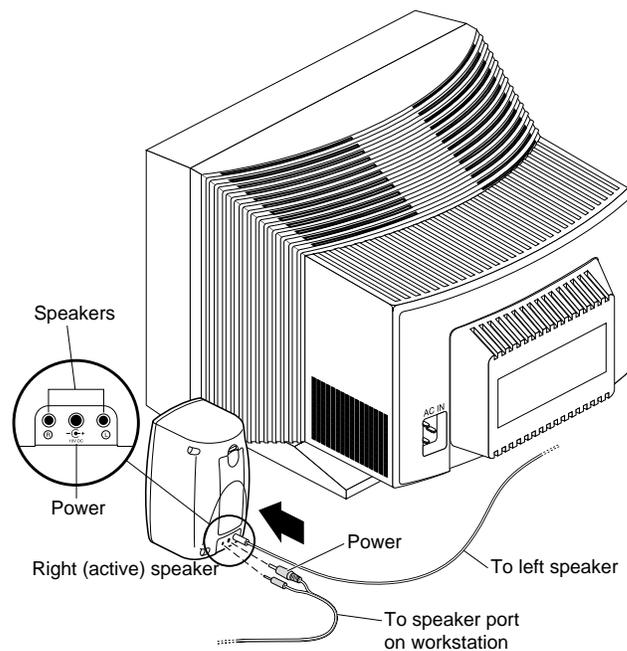

Figure 6-17 Attaching the Speaker Cables to the Active Speaker
5. Attach the female power connector to the middle port on the right (active) speaker, as shown in Figure 6-17.